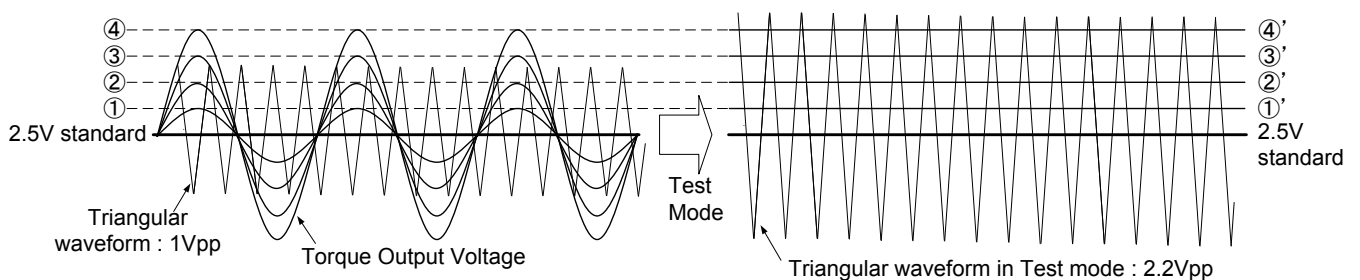

Figure -9 PREDRIVER OUTPUT DUTY Measure method
Peak voltage of torque output at VTH=1V, 2V, 2.4V and 2.9V is shown at ①~④ in Figure-9 in measurement of pre driver output DUTY. For measuring pre driver output DUTY, hall input is applied with DC voltage considerably to torque peak voltage of ①~④ (hall input amplitude is assumed as 100mVpp). In this condition, torque output voltage is shown in Figure-9 as ①'~④'. In addition, triangular waveform amplitude of COSC becomes 2.2Vpp. DUTY of pre driver output is measured by comparison of voltage of ①'~④' and triangular waveform 2.2Vpp